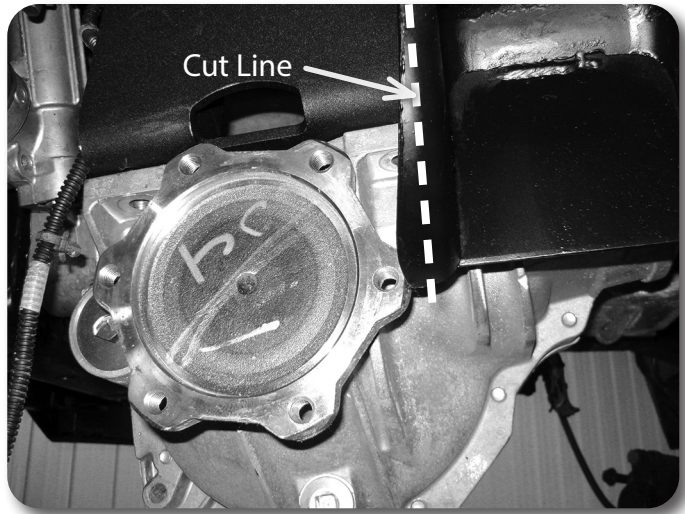

Figure 26 - Shown with differential to show clearance
39. The rear control arm pocket flanges need to be trimmed for CV shaft clearance. Cut the flange so it is approximately 3/8" from the inside face of the control arm pocket. Verify there is enough clearance once the CV spacers are installed. **Figure 26 & 27**